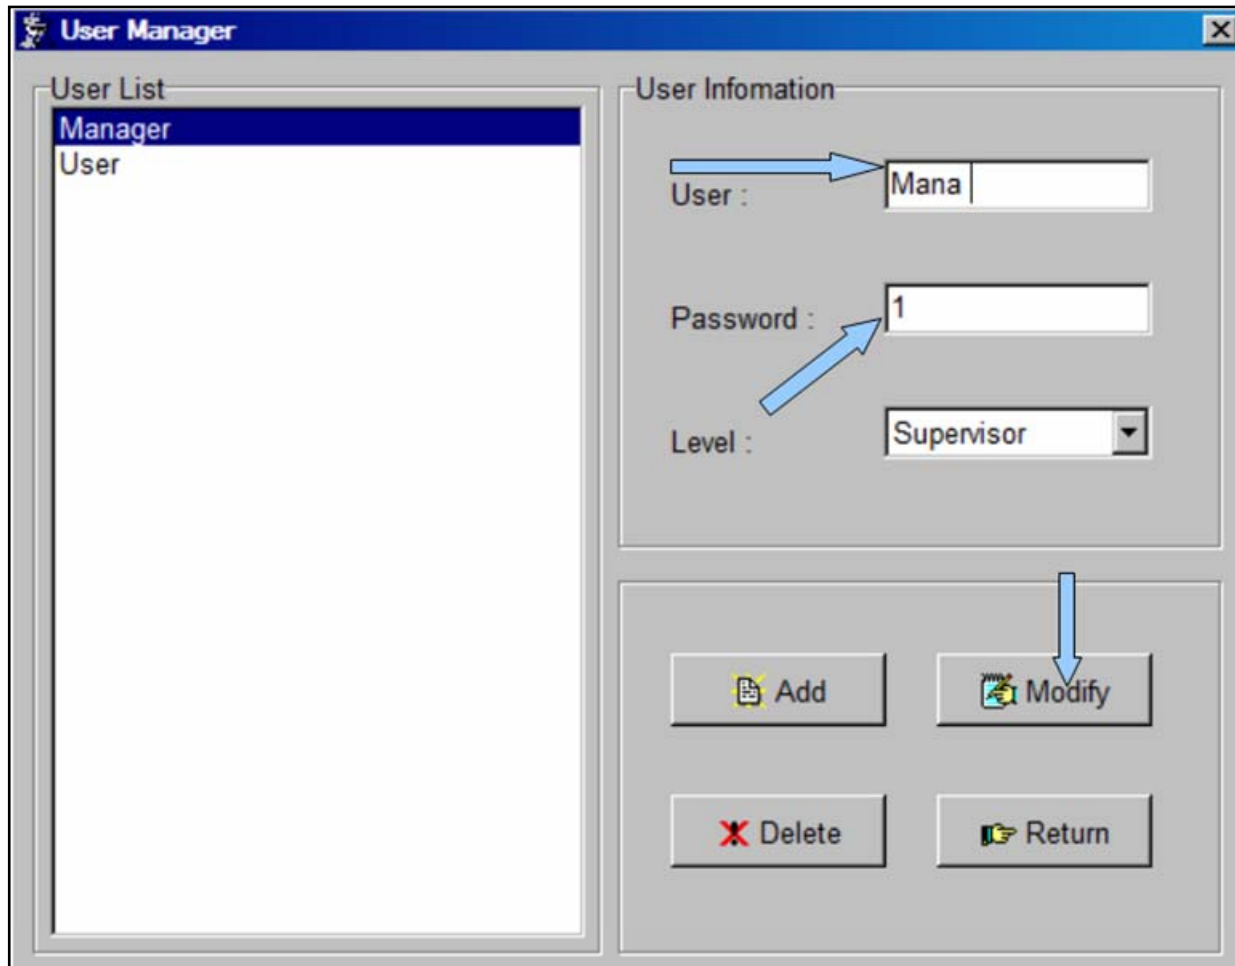

Figure 4-38. Edit Default Entries
3. Delete the default entries, **Figure 4-38** and enter the new user name and password.